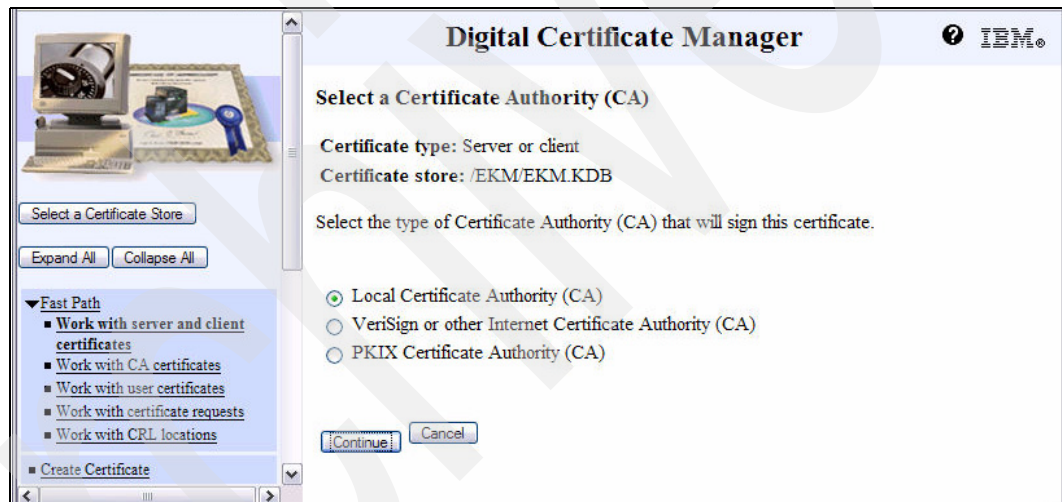

Figure 7-22 DCM Select a Certificate Authority screen
14. Select the option **Local Certificate Authority** for creation of a self-signed certificate to be used for tape encryption and click **Continue** as shown in Figure 7-22.